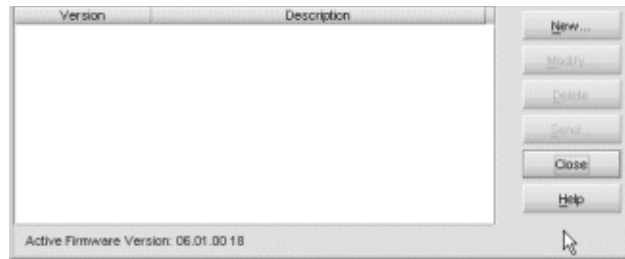

Figure 46: Director Firmware Library dialog box
3. Choose **Maintenance > Firmware Library**. The Director Firmware Library dialog box displays, as shown in Figure 46.
4. Choose **Maintenance > Firmware Library**. The Director Firmware Library dialog box displays, as shown in Figure 46.
5. Choose **Maintenance > Firmware Library**. The Director Firmware Library dialog box displays, as shown in Figure 46.